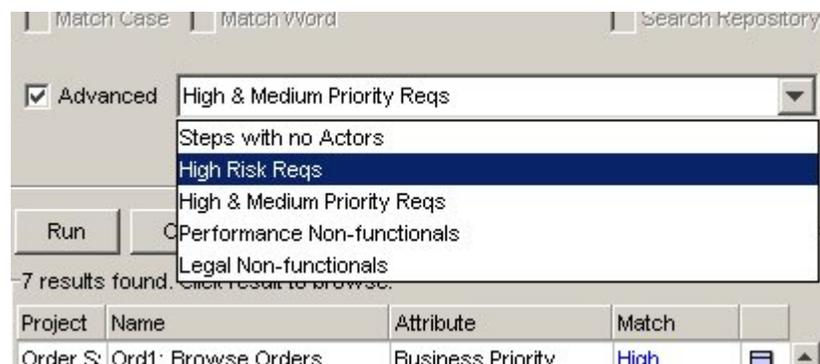

Figure 36 - Selecting a Query for Editing or Deleting
- In the Query tab, select the Query you want to edit from the list box. See Figure 36 - Selecting a Query for Editing or Deleting
- In the Query tab, select the Query you want to delete from the list box. See Figure 36 - Selecting a Query for Editing or Deleting